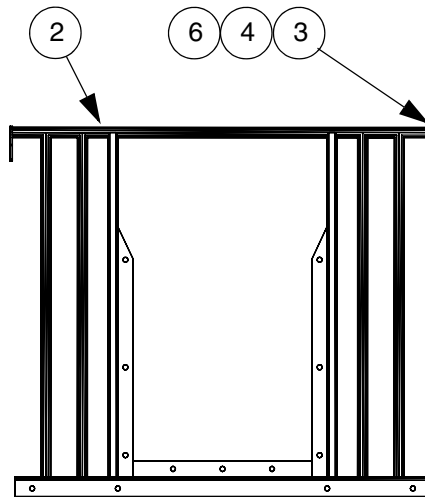
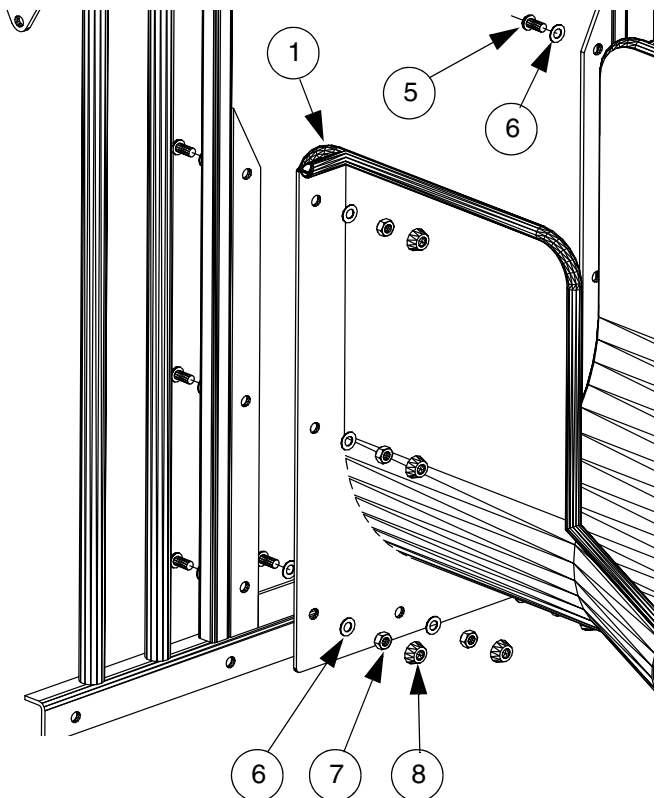
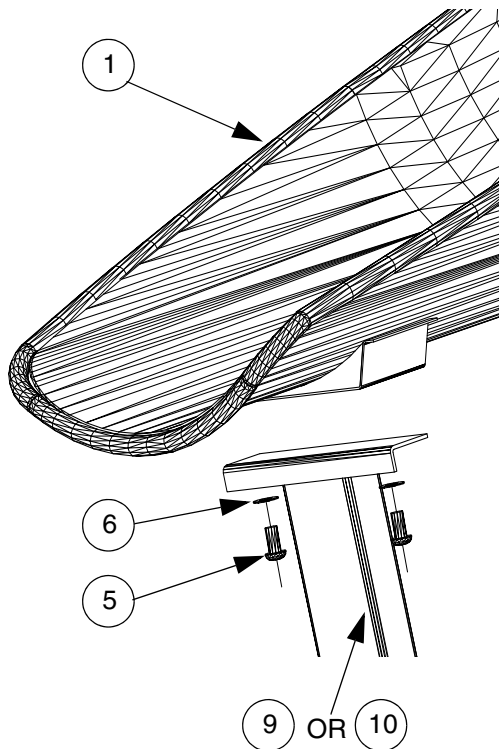

FIG.1
FIG.2
FIG.3
- i) Offer item 1 to item 10. Ensuring the top of item 1 rests on the cross member of item 10. The walls of item 1 must be positioned outside the gussets on item 10. (Fig 1).
- ii) Mark out foundations for items 6/7/8. Remove item 1 then excavate holes.
- iii) Bolt item 6, and if applicable items 7 & 8, to item 1. (Fig 2).
- iv) Repeat note (i). Secure item 1 using items 4 & 5. Ensure the **bolt** head is on the inside of the slide.
- v) Set position and pack up bases. Check item 1 ground clearance.
- i) Offer item 1 to item 2. Ensuring the top of item 1 rests on the cross member of item 2. The walls of item 1 must be positioned outside the gussets on item 2. (Fig 1).
- ii) Mark out foundations for items 10/11/12. Remove item 1 then excavate holes.
- iii) Bolt items 10/11/12 to item 1. (Fig 2).
- iv) Repeat note (i). Secure item 1 using items 6 & 7. Ensure the *bolt* head is on the inside of the slide.
- i) Offer item 1 to item 2. (FIG.2).
- ii) Mark out foundations for items 9/10. Remove item 1 then excavate holes.
- iii) Bolt items 9, and 10, to item1. (FIG.3 & 4).
- iv) Repeat note (i). Secure item 1 using items 5,6,7 & 8. Ensure the **head** of the Resistorx fitting is on the inside of the platform.